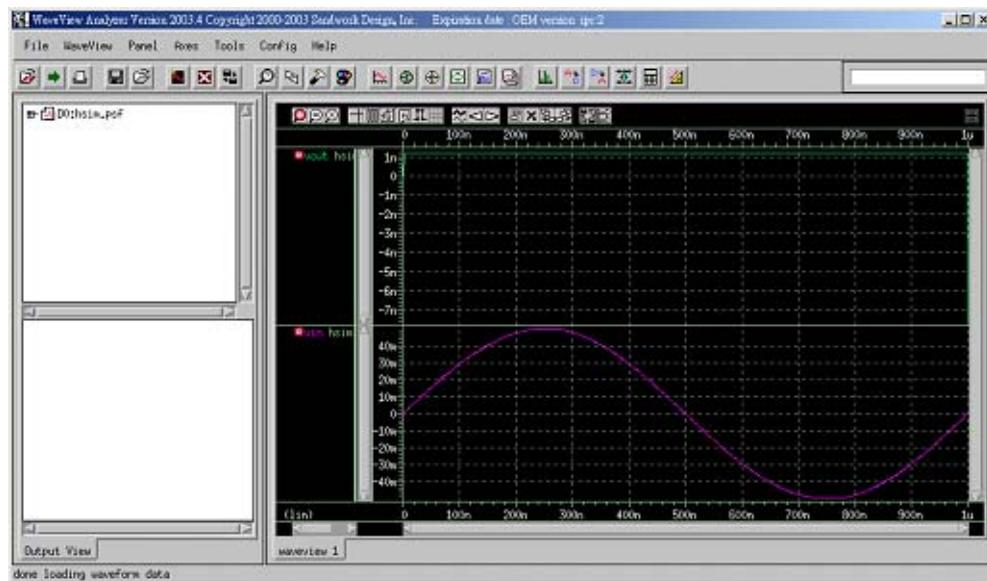

Figure 61 Virtuoso Schematic Editor Window Showing a Selected Signal Plotted in WaveView Analyzer
4. Select the signal to be plotted by clicking VIN and then press Escape to display the waveform as shown in Figure 61.